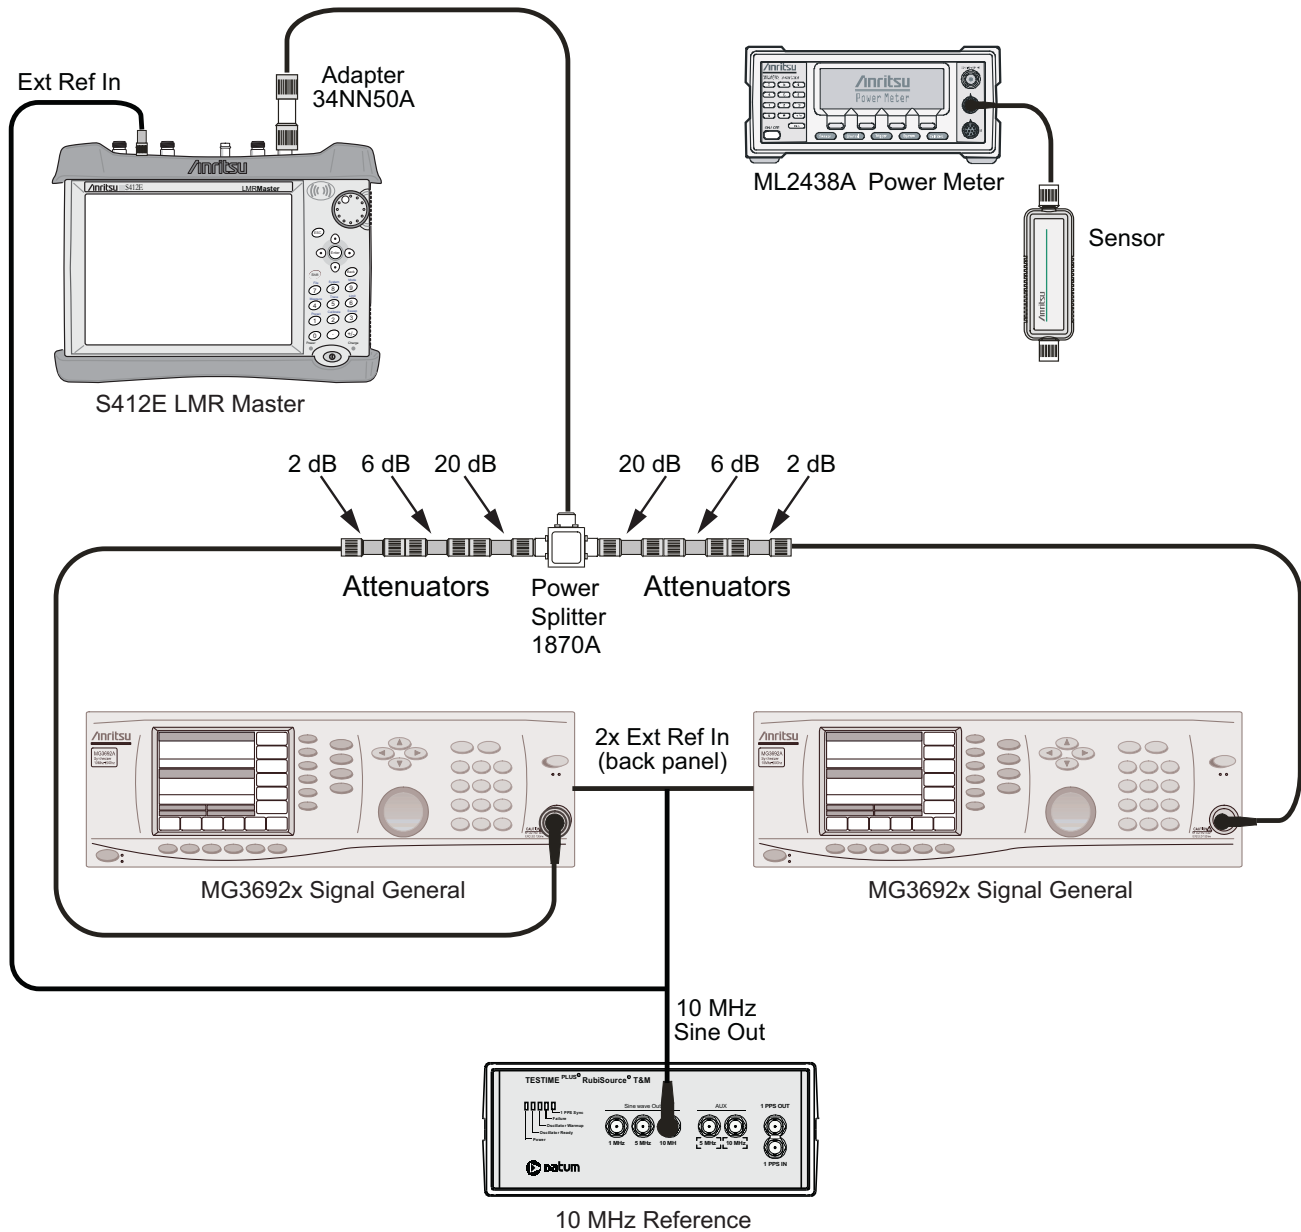

Figure 3-4. Third Order Intercept (TOI) Measurement Setup
14. Disconnect the power sensor from the output of the power splitter and connect the power splitter output to the S412E RF In connector through the Anritsu Model 34NN50A adapter as shown in Figure 3-4.
9. Disconnect the power sensor from the output of the power splitter and connect the power splitter output to the S412E RF In connector through the Anritsu Model 34NN50A adapter. Refer to Figure 3-4 on page 3-20.
12. Press the **Shift** key and then the **Trace (5)** key. Press Trace A Operations, and set # of Averages to 2.